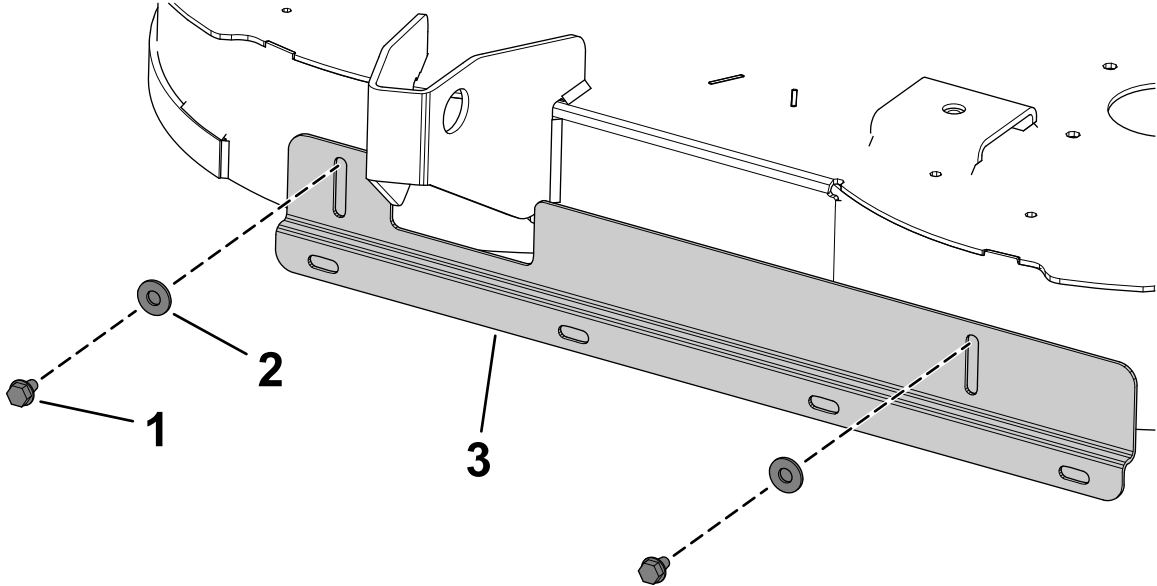

Figure 2
2. Secure the striping bracket to the mower deck using 2 washer-head screws (5/16 x 1/2 inch, self-threading) and 2 flat washer (5/16 inch) as shown in **Figure 2**.